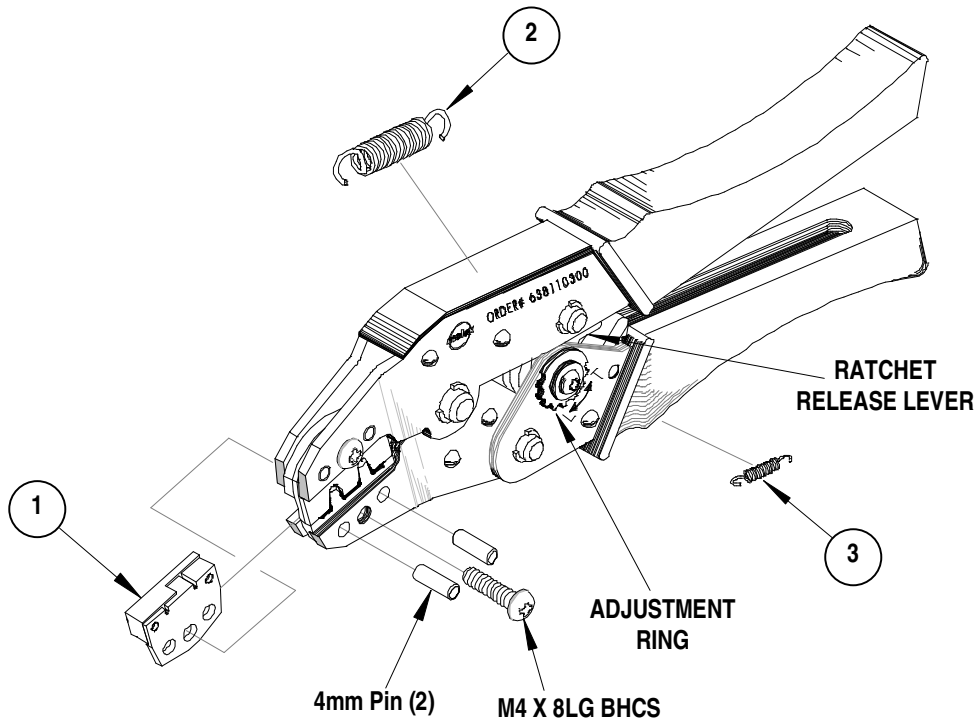

Figure 4
4. Finish closing the hand tool until the ratchet releases. See Figure 4.
Should this tool ever become stuck or jammed in a partially closed position, **Do Not force the handles open or closed.** The tool will open easily by lifting the ratchet release lever. See Figure 4.
### How to Adjust Tool Crimp Force (See Figure 4)